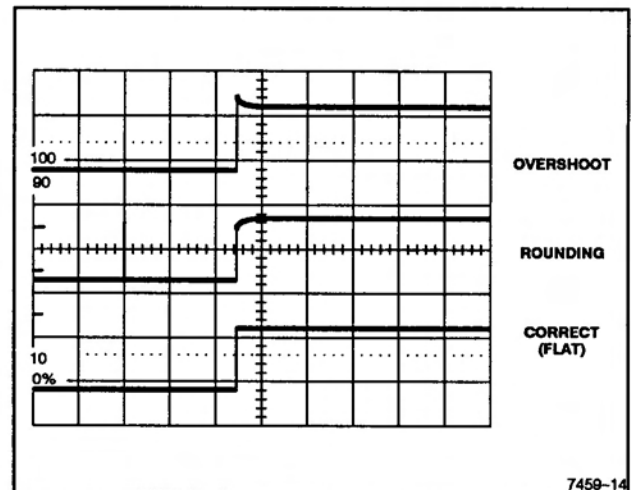

Figure 5-4. CH1 and CH2 Input Compensation.
- e. ADJUST—CH1 Input capacitor on hybrid U110 (the top one) for the best flat corner on the displayed Channel 1 waveform (see Figure 5-4).